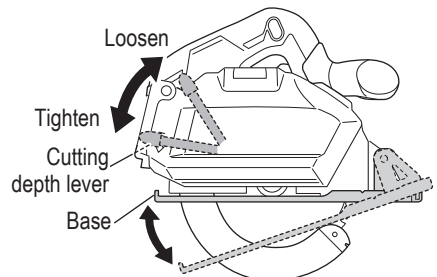

Fig. 20
2. Check if the lever is tightened (Fig. 20)